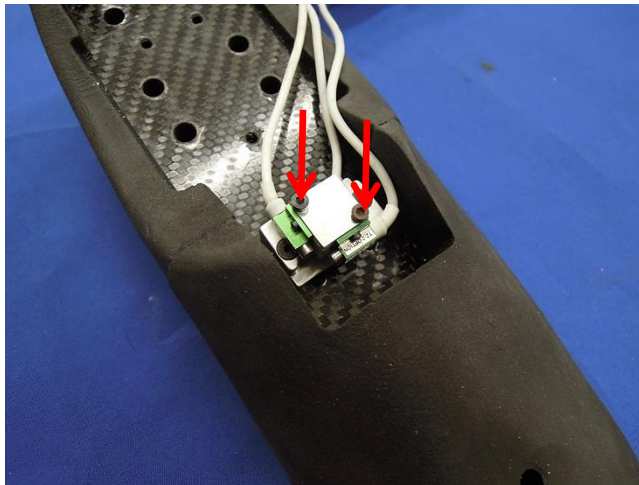

Figure 12-57. Attach Tri-Pack block to mounting
- 12.2.2.39 Attach the Tri-Pack Block to the Tri-Pack Accel Mounting using two M2.5 x 0.45 x 16 SHCS (Figure 12-57).